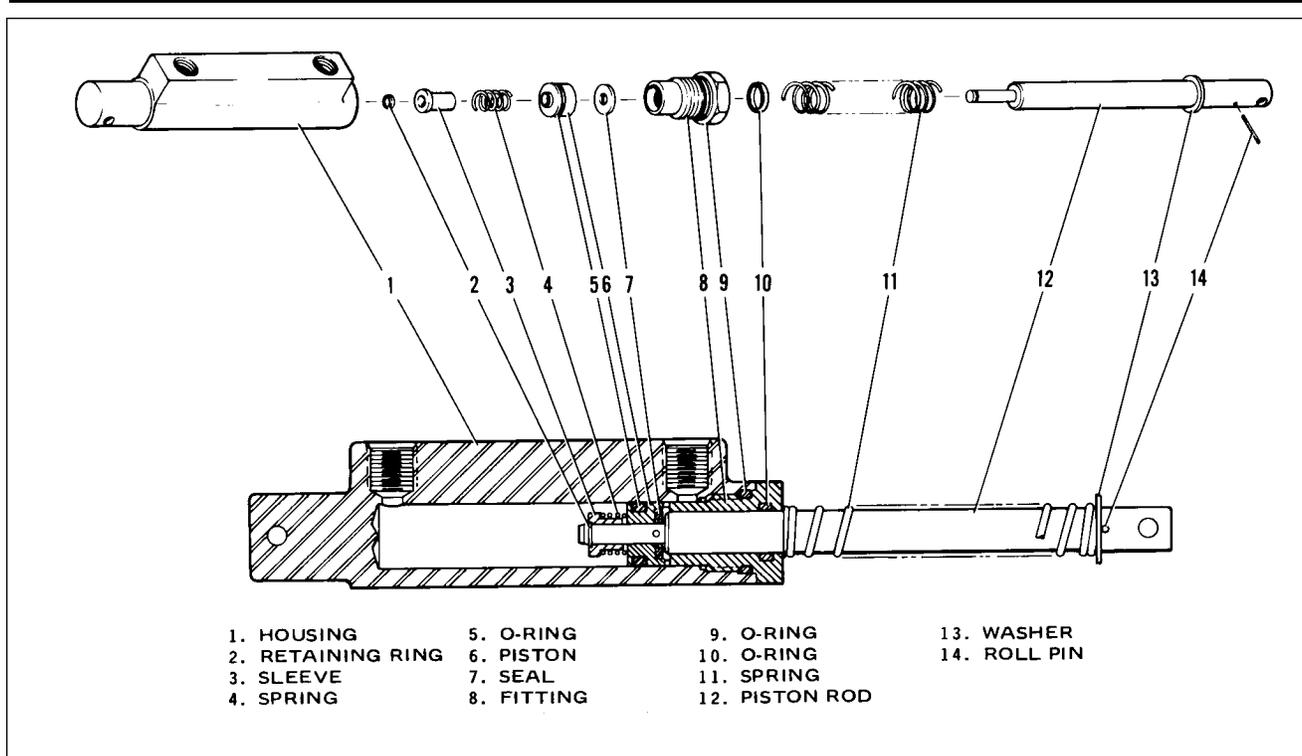

Figure 32-20. Brake Cylinder (17000) (Toe Brake)
**DISASSEMBLY OF BRAKE CYLINDER. (Refer to Figure 32-20.)**
1. Gar-Kenyon cylinder number 17000 (Refer to Figure 32-20).